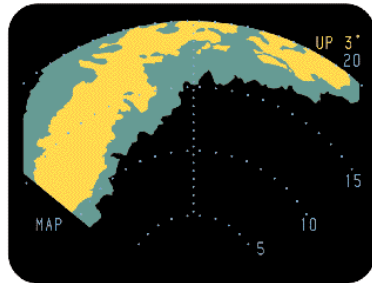

Figure 3
- If the pattern shifts as shown in Figure 3, decrease the tilt angle until the edge of the video pattern reaches the same position as the center was before the roll maneuver. Note the new position of the tilt control. Proceed to step 11.